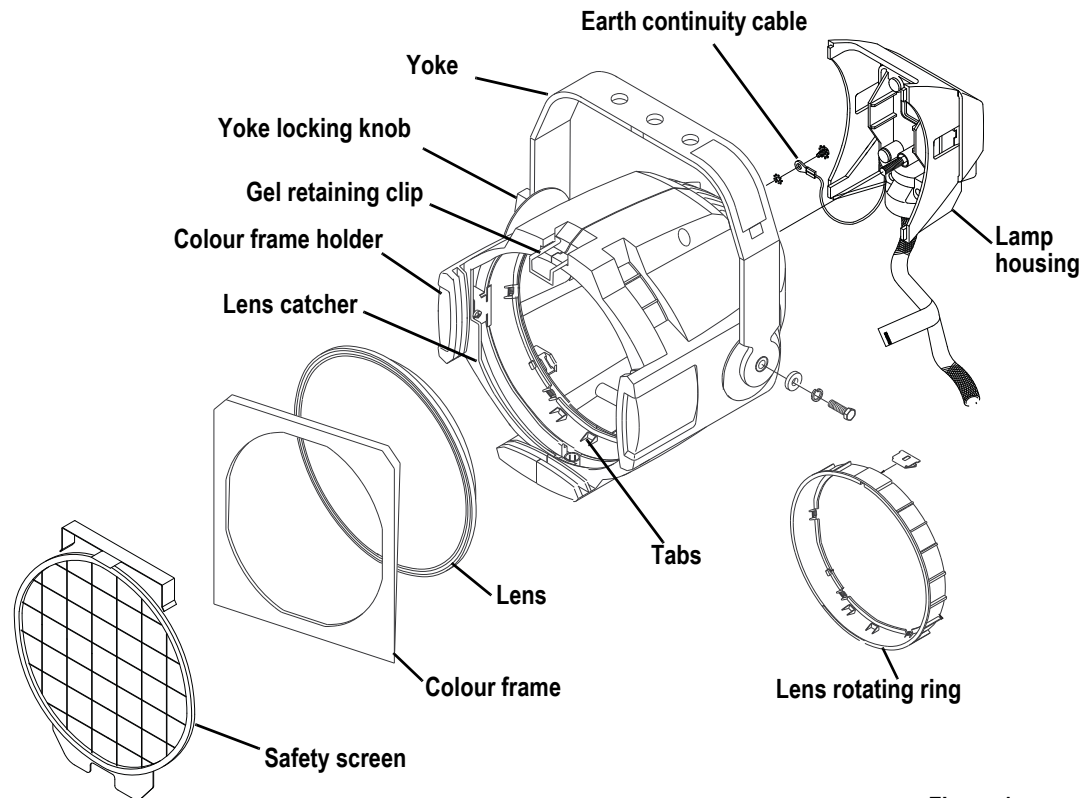

Figure 1
- Step 2: Position the lens rotation ring with the spring clip at the top of the unit, directly below the gel retaining clip. See Figure 1.